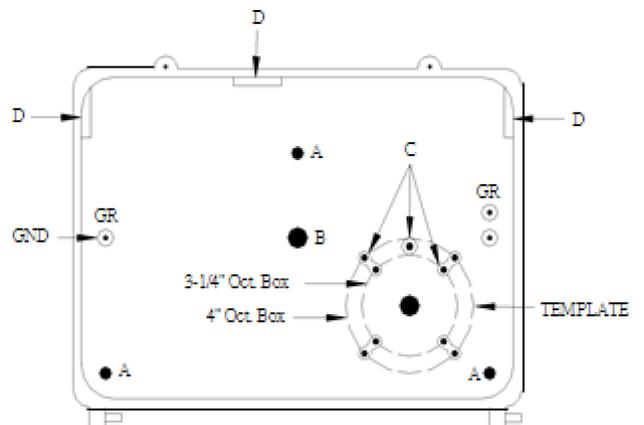

Figure 2.
- Inspect the 3 mounting hole locations. (they are item A on Fig. 2) and ensure that there are no components over them.